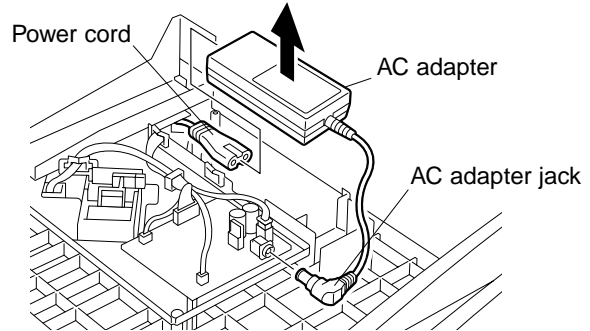

Fig. 6-13
3. Remove AC adapter. (See Fig. 6-13)
- Remove AC adapter. (See Fig. 6-13)